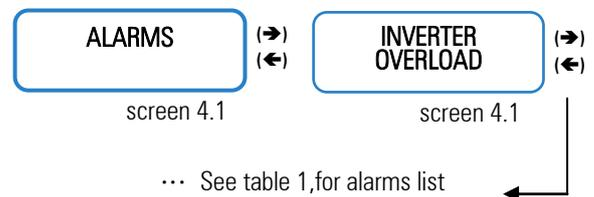

Fig.34. Screen 4.0 «Alarms» and its submenus.
6.3.5. "ALARMS" level (screen menu 4.0). See Fig. 34.
Figure 34 is showing just only one alarm as an example, but there could be some of them, the active ones. In table 6, there are all the possible alarms displayed in the display LCD. Also, alarm message screens may appear blinking and replacing any other screen (even in different menu or submenu) currently displayed. By pressing (ENT), blinking alarm message is acknowledged and previous screen is displayed again.